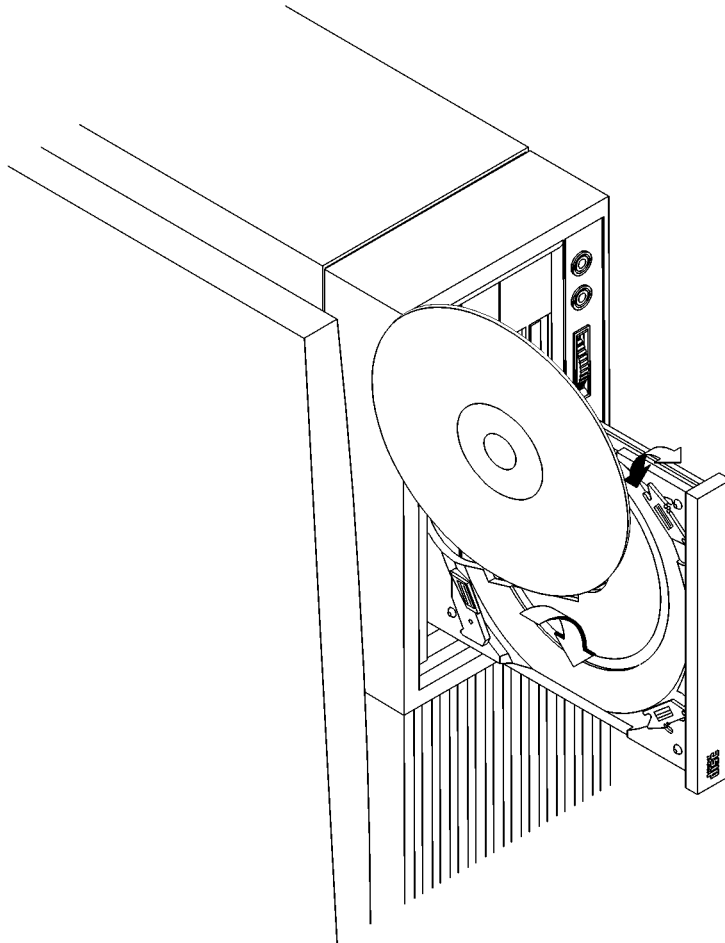

**Figure 11**      **Releasing the Disc Holder Retainers**
- 2 Wait until the drive has fully ejected the disc tray, then remove the disc from the tray as shown in Figure 11. Be careful to touch only the edges of the disc.
- 1 Make sure the three disc holders are disengaged from the disc holder retainers, as shown in Figure 11.